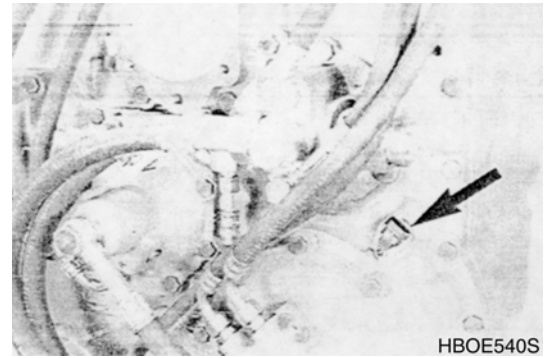

Figure 367
- Grease O-ring and fasten speed sensor (Figure 367) using socket head screw.